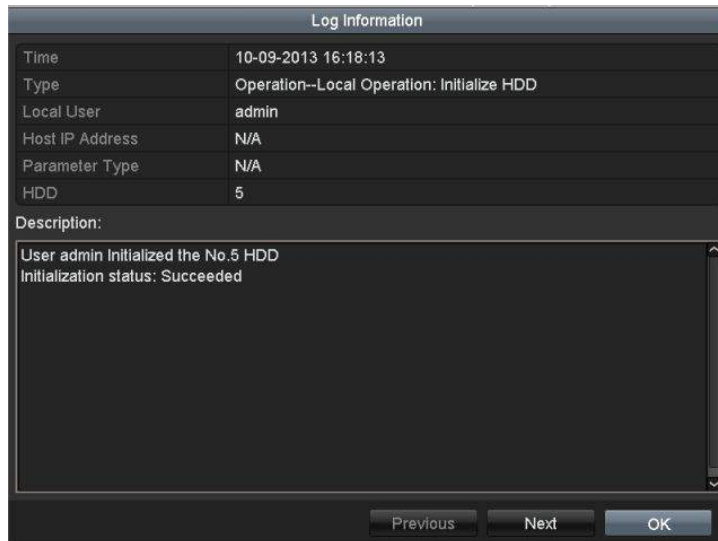

Figure 15. 4 Log Details
6. If you want to export the log files, click the **Export** button to enter the Export menu, as shown in *Figure 15. 4 Log Details*.